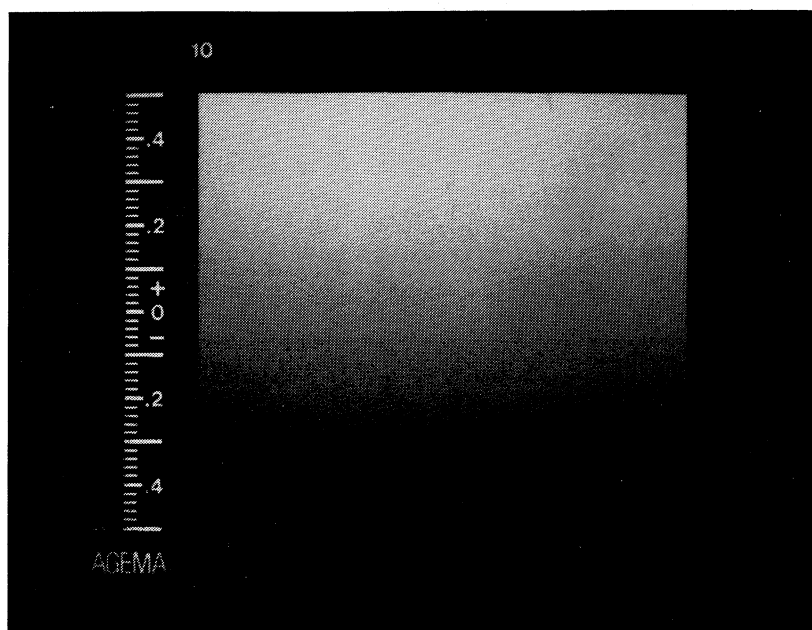

Fig. A.7 Gray Scale Sample Picture
- (j) Compare the gray tone print with the display (Fig. A.7). If necessary fine adjustments to the CONTRAST and BRIGHTNESS preset controls may be required. A small screwdriver included in the tool kit is required to carry out this operation. Clockwise rotation causes an increase of brightness or contrast. Counter-clockwise rotation causes a decrease of brightness or contrast. If adjustment is required a further test print should be carried out.